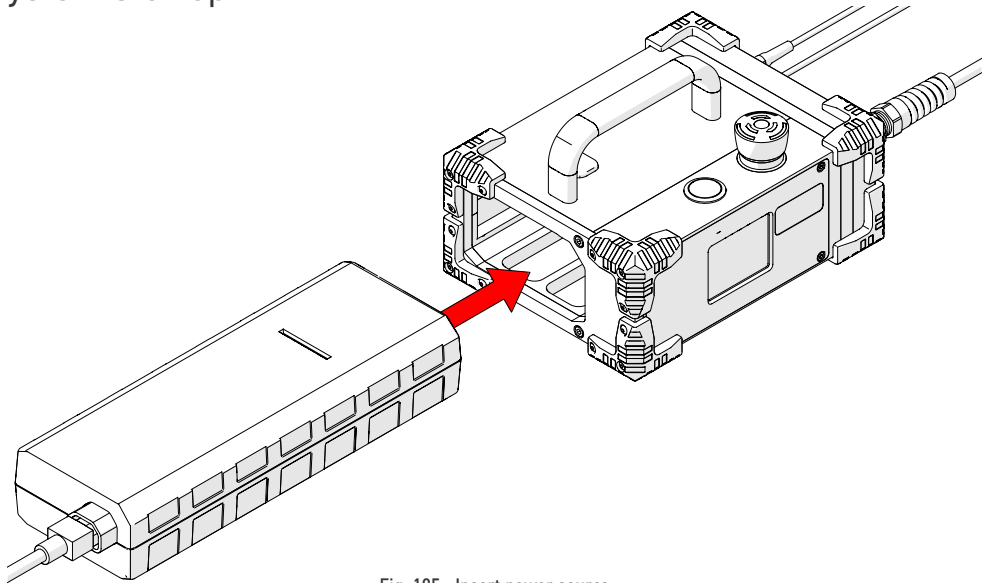

Fig. 195 - Insert power source
1. Insert the power source (Fig. 195) into the power controller dock.